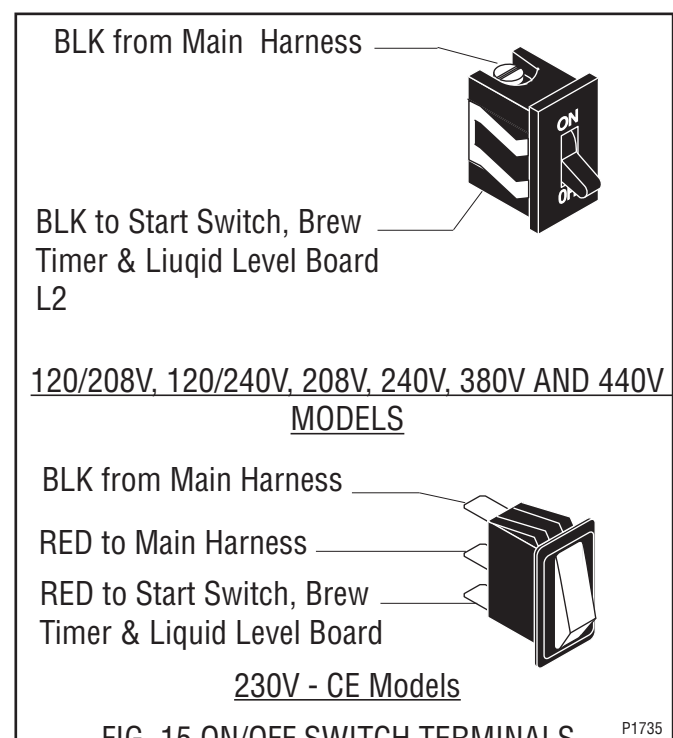

FIG. 15 ON/OFF SWITCH TERMINALS
4. Refer to Fig. 15 and reconnect the wires.